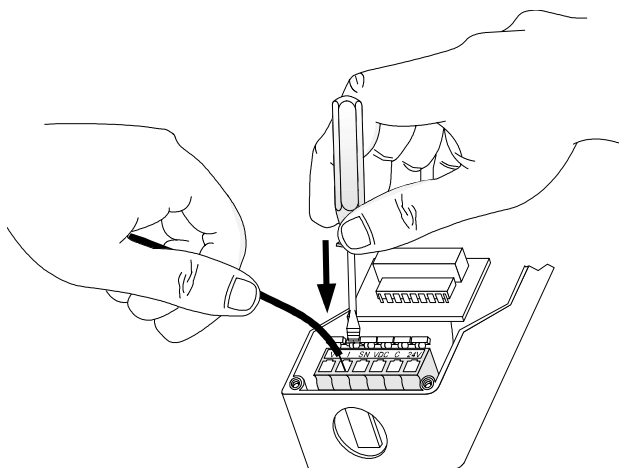

Figure 8: Cage Clamp Terminal Block
1. Use a 1/8-in.- (3.2 mm) wide-blade screwdriver to push the clamp arm down. (See Figure 8.)